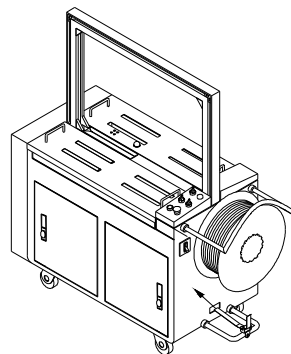

Fig4-2
See as Fig 4-2.
① Load the bailing strap on the strap stool. Load the bailing strap according to the course shown as Fig 4-2. After the head enters the jaw to insert the strap, turn the knob in the pre-strap-feeding mechanism in clockwise direction. Make the two tape wheels far from a distance to pass strap head through two tape wheels and enter strap storehouse. Pull the strap head by hand and then turn the emergency stop button on the control panel and the bailing strap will automatically be full of strap storehouse.